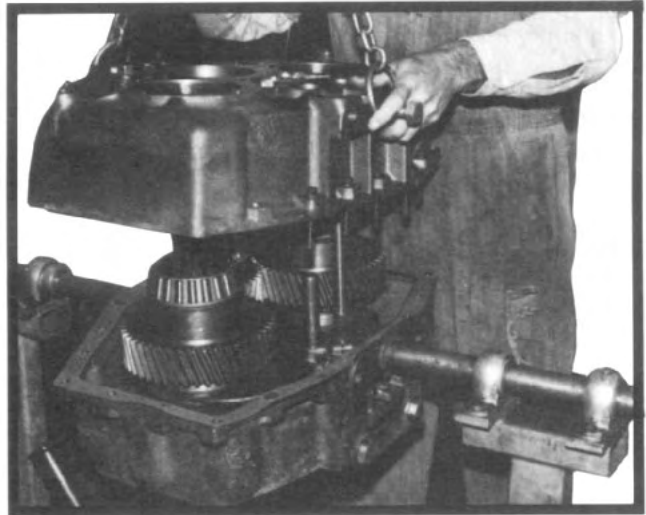

Fig. 4
6. The case should now be supported by the front half and be positioned so that the rear half of the case is facing upwards. Mark the housing halves as a set as these must be reassembled together. Remove all the bolts that hold the housing halves together and lift off the rear housing half (see fig. 4). The three shafts can now be lifted out of the front half of the case.